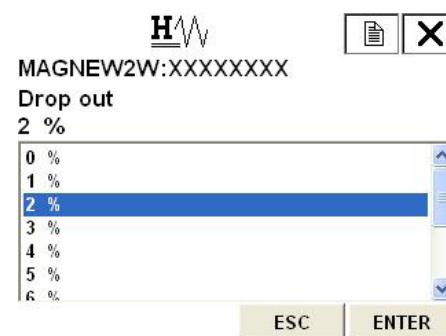

Figure 7-27
Figure 7-27 will then be displayed.
2. Once the display as shown in Figure 7-27 appears, move the arrow key up or down to select drop-out value. Value can be specified from 0% to 10%. After making a selection, press F4(ENTER). If F3 (ESC) is pressed here, the selection will be canceled and the display will return to the Noise immunity menu.